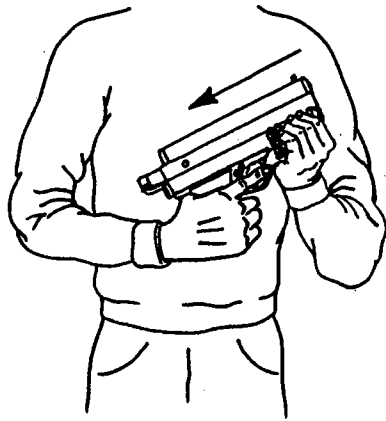

FIG. 4
- While holding the gun with the muzzle in the upward position, slide forearm back until sear engages with a click and action stays open. (Fig. 4).